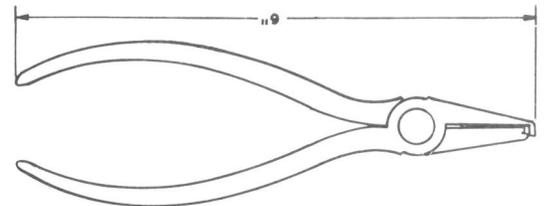

Fig. 11—KS-14640 Contact Stripping Pliers
2.11 KS-14640: The KS-14640 tools are contact stripping pliers (Fig. 11) which form a part of the 1013A tool kit. This tool is used in removing contacts on stationary springs on wire-spring relays.